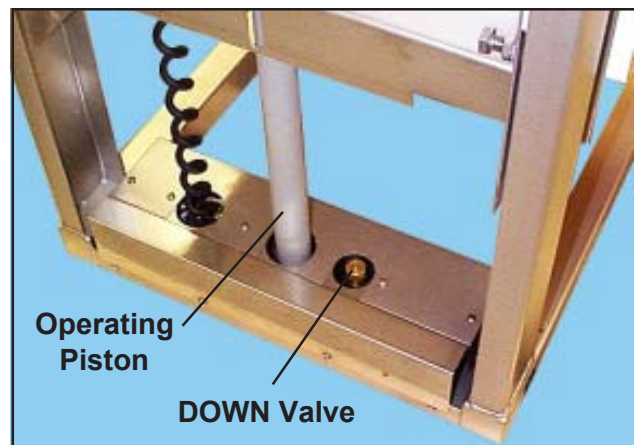

Figure 26. DOWN Valve
3. Locate the **DOWN** valve next to the operating piston (Figure 26).